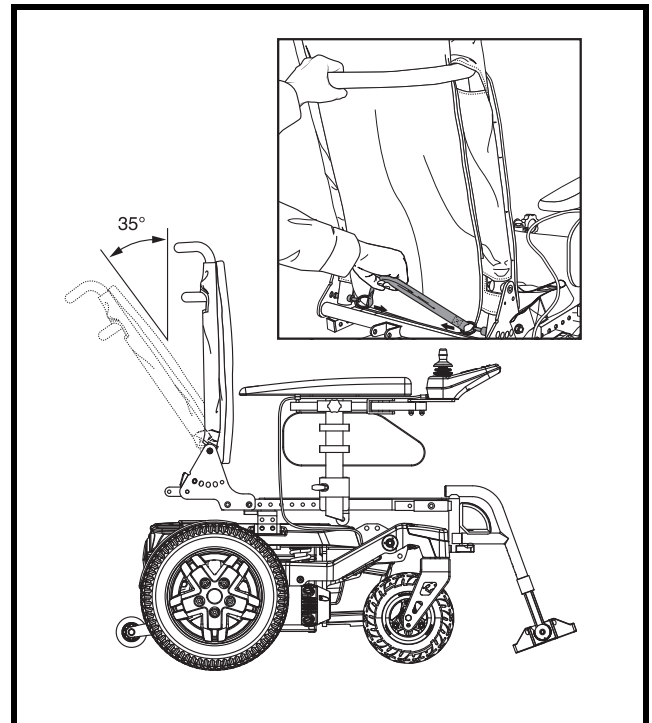

Figure 12. Manual Recline Seatback Adjustment
1. Pull the adjustment strap on the bottom portion of the seatback. See figure 12.